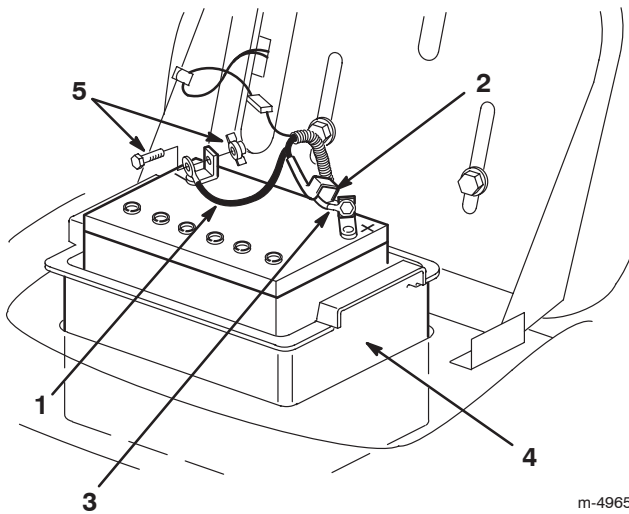

Figure 25
4. Disconnect the negative (black) ground cable from the battery post (Fig. 25).
5. Slide the rubber cover up the positive (red) cable. Disconnect the positive (red) cable from the battery post (Fig. 25).
6. Remove the battery box and battery from the chassis (Fig. 25).
1. Put the battery into the battery box and install it into the chassis (Fig. 25).
2. Using the bolt and wing nut, connect the positive (red) cable to the positive (+) battery post (Fig. 25). Slide the rubber cover over the battery post.
3. Using the bolt and wing nut, connect the negative (black) cable to the negative (-) battery post (Fig. 25).